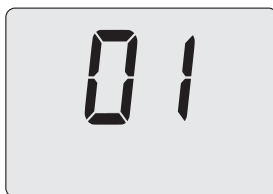

Fig. 10.21
- Press the 14 key and the LCD display shows the number **01**, indicating activation of the "chimney sweep function" at minimum output (Fig. 10.21).